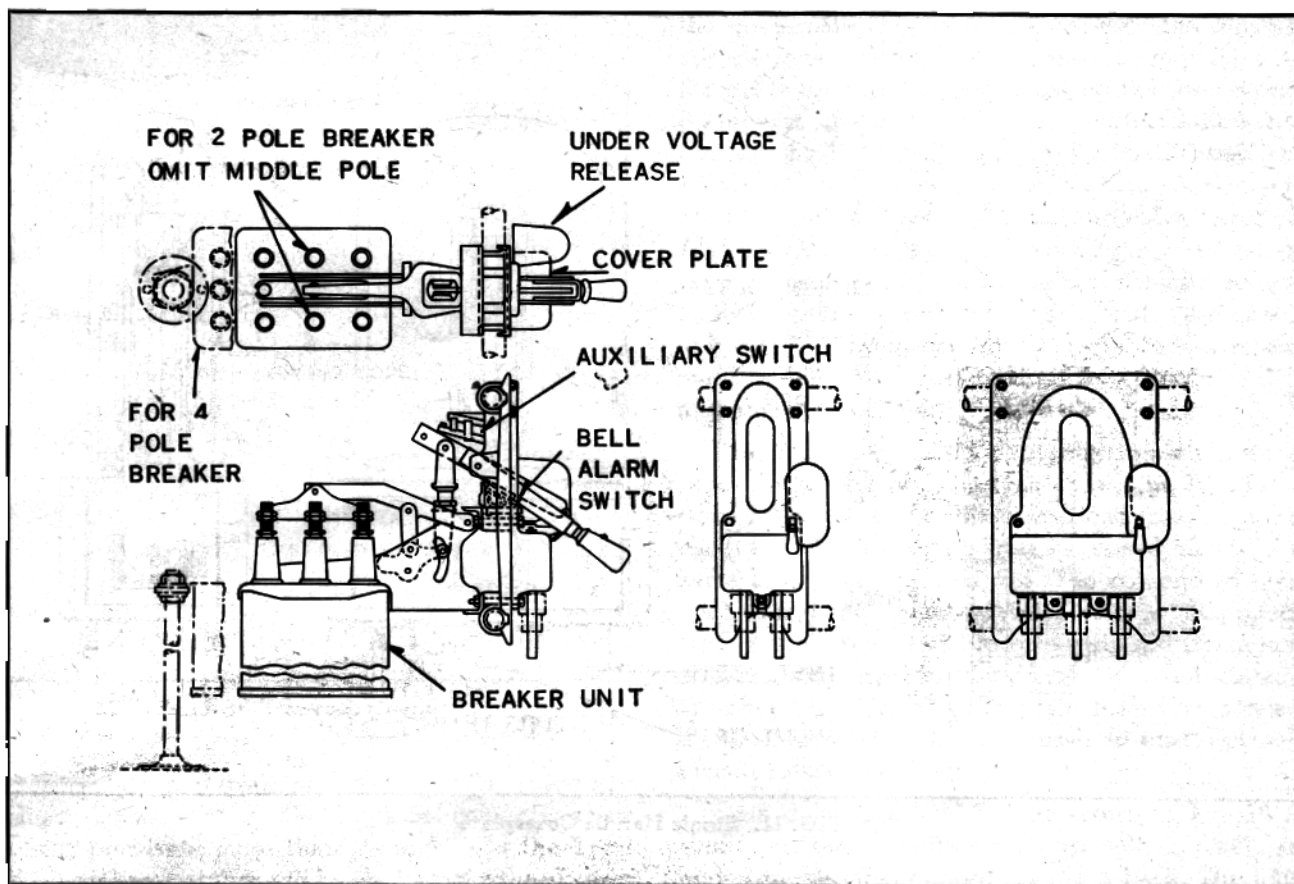

FIG. 9. Pipe Frame Mounting Assembly
6. If breaker unit and coverplate are to be mounted on a pipe mounting bracket as in Fig. 9 proceed as per 3-4-5 above, the pipe bracket is just a cast iron switchboard to be supported on pipes.